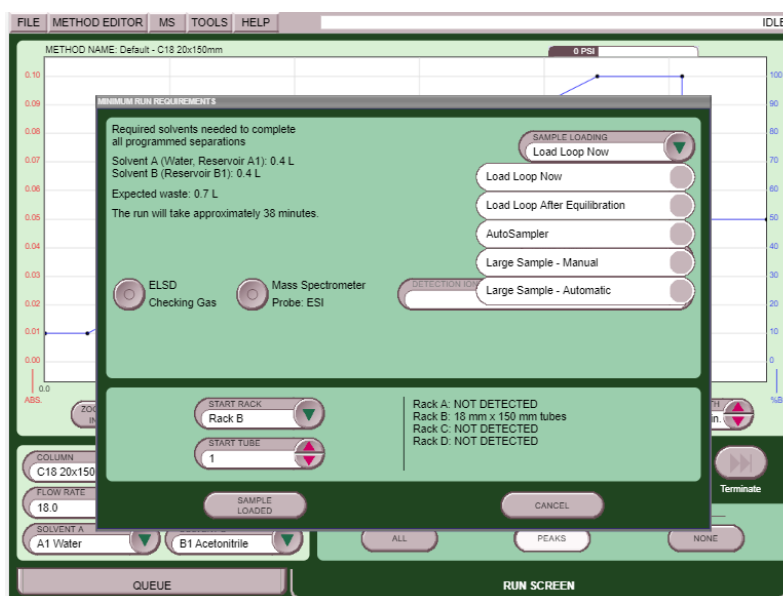

Figure 3-1 Choosing Injection Method
3. If you want to automatically perform multiple injections (or perform a single injection using the AutoInjector Module), select the AUTO INJECTOR drop down as shown in Figure 3-1. This is the default selection if an AutoInjector Module is present. If an Auto Sampler Module is present, you will select the AUTO SAMPLER dropdown.